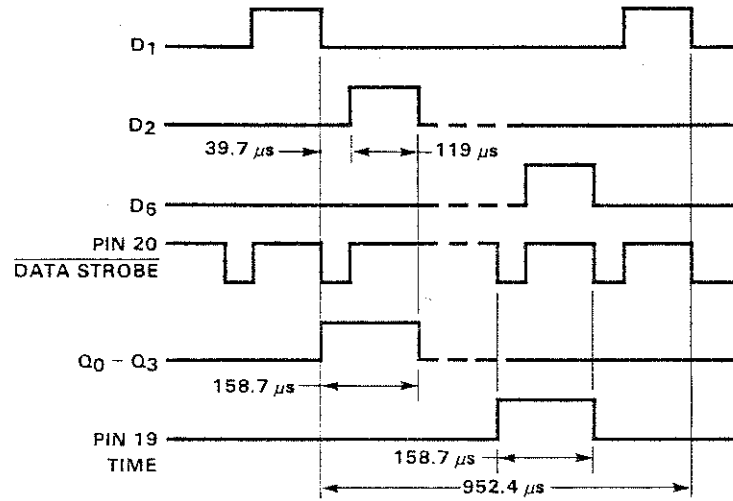

Fig. 4
3. Connecting IN₃ and D₃ causes the clock to be displayed continuously. Both AM and PM are active only during the clock and alarm (12-hour display) display presentations. See Figure 4 for FCM7002 TIME (pin 19) output conditions during other than clock display.
Pin 19 is valid during D6 time as shown in Figure 4. This output is only present when data other than clock (calendar, alarm or clock radio) is being displayed. Pin 20 is an active LOW data strobe which is present every digit-blanking time. See Figure 4. Pin 21 is not connected. Low voltage detection is the same as the FCM7001 except the indication is A1 and A8 outputs are HIGH.